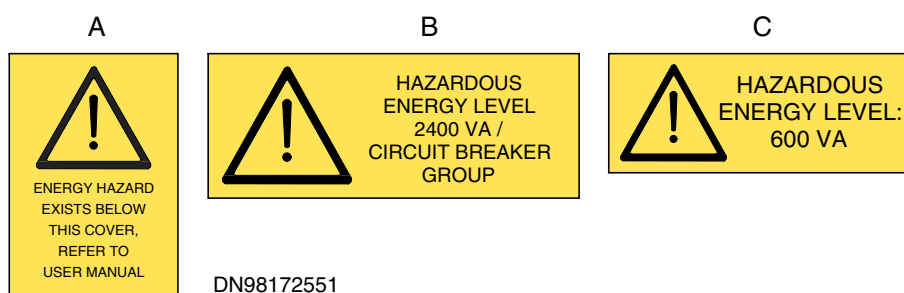

Figure 1. Energy hazard labels
- Figure 1. Energy hazard labels **9**
The risk of accessing hazardous energy levels mainly applies to the power distribution system and the Power Supply units in the cabinets. For this reason, the distributors and Power Supply units are provided with special warning labels attached, described in Figure 1. Elsewhere in the system the risk is virtually nonexistent if the electricity and earth/ground connections are secure and correct, and the equipment is in good condition.